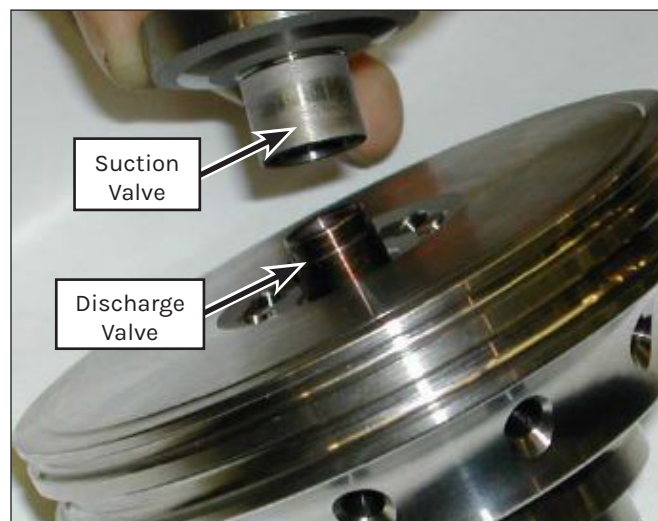

Figure 122: Valve Removal.
7. Remove the suction and discharge valves (Figure 122).